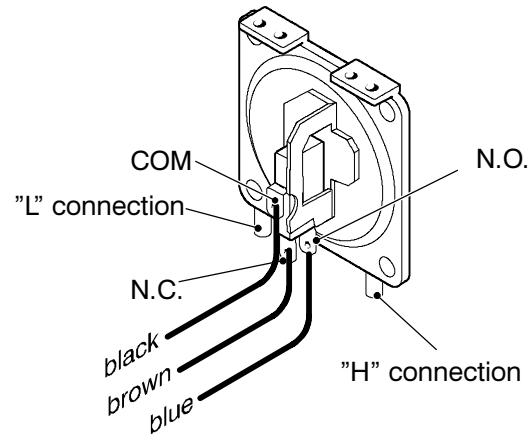
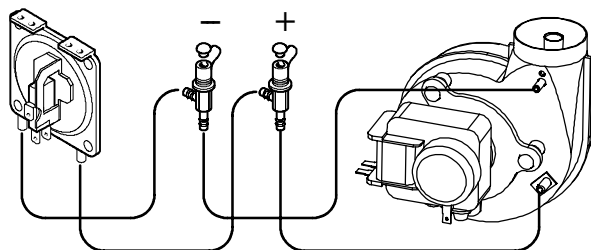

Fig. 66
Fig. 70
- 2 Disconnect the wires and check the electrical resistance between the connections of the Air pressure switch (Fig. 66).
**Warning: to correctly connect the venturi device to the Air pressure switch, refer to Fig. 70.**
**Warning:** to correctly connect the Air pressure switch, refer to Fig. 70 and Fig. 66 for the correct wiring.